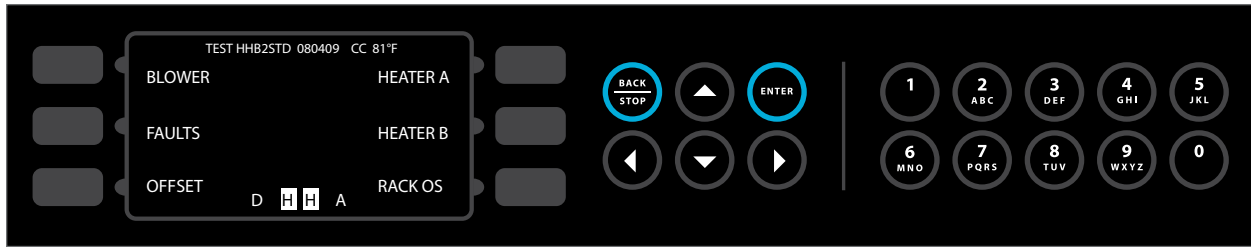

Figure 27: Test Mode Screen 1 of 2
To assist in troubleshooting, status indicators are displayed in Test Mode and while the oven is cooking in Diagnostic Mode. The following oven parts are represented by letters at the bottom of the display (Figure 27).
NOTE: In Figure 27, the door is closed, heaters A and B are off, and the blower is on.
From Test Mode screen 1 (Figure 27):
1. From Test Mode screen 1 (Figure 27), press the top-left soft key (BLOWER).
1. From Test Mode screen 1 (Figure 27), press the middle-left soft key (FAULTS).
1. From Test Mode screen 1 (Figure 27), press the bottom-left soft key (OFFSET).
To turn on heaters A and B (Figure 27):
1. From Test Mode screen 1 (Figure 27), press the bottom-right soft key (RACK OSC) to turn the rack motor on/off.